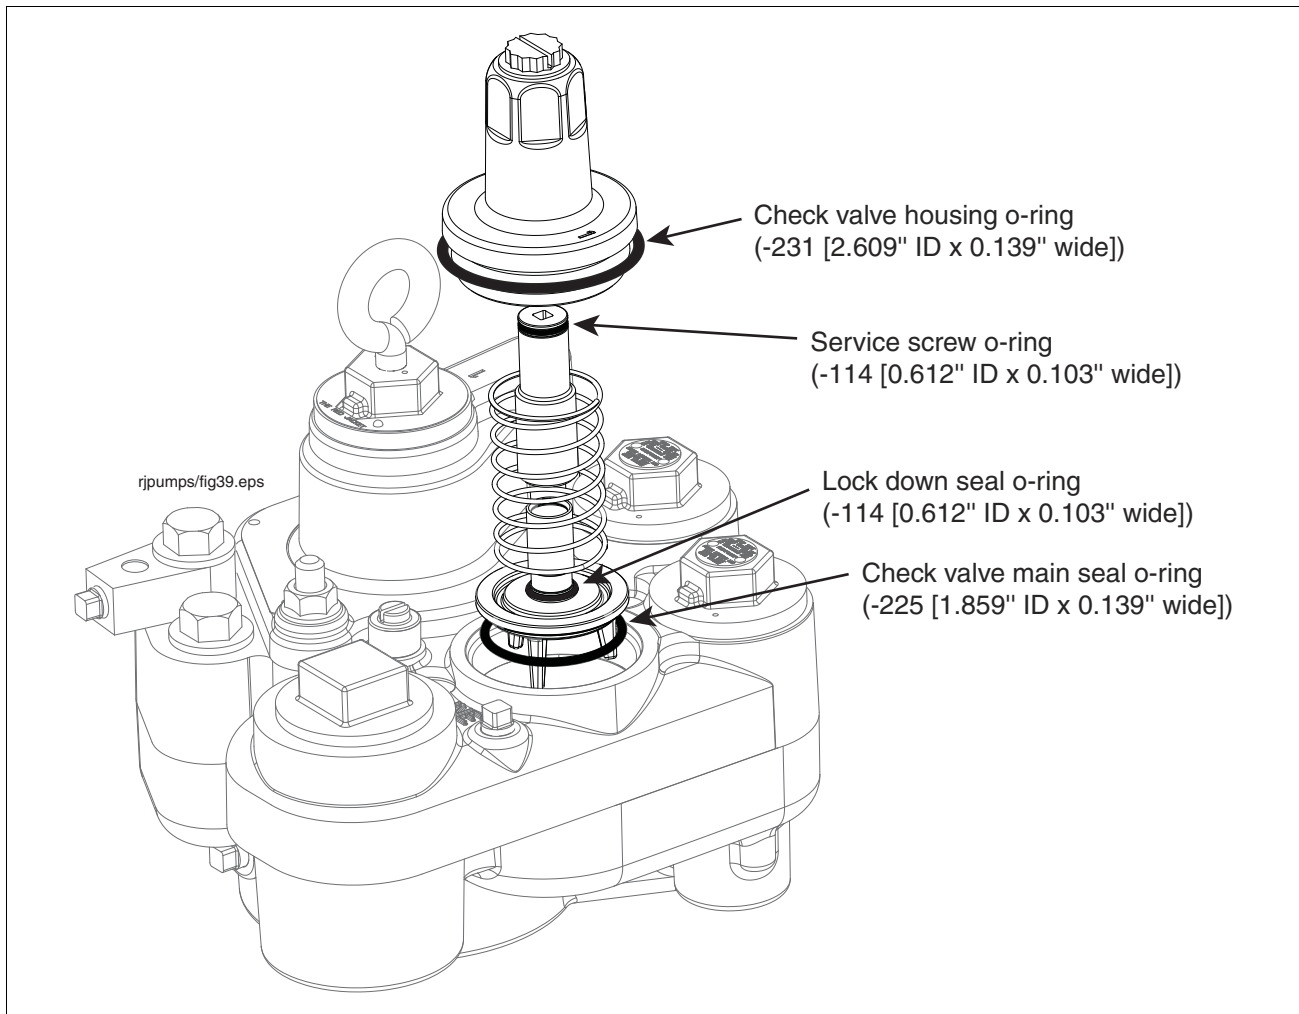

Figure 30. Inserting Check Valve Assembly Into Manifold
- With its lubricated O-ring in place, insert the check valve onto its seat in the manifold, and place the new spring over the check valve (see Figure 30). Place the check valve housing with O-ring over the spring and check valve and screw it in hand tight. Torque the housing to 40 - 50 ft-lbs (54 - 67 N•m).